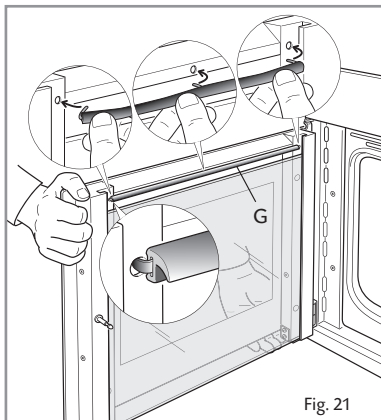

Fig. 21
- Reassemble the seal **G** in the correct way (fig. 21) by hooking the no. 3 fixing hooks in the proper holes.